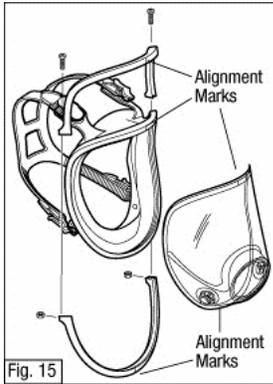

Fig. 22
2. Remove the (2) Phillips screws from the lens/faceseal frame. Pull the frame top and frame bottom away from faceseal.
4. Place new lens and faceseal together aligning marks at top and bottom. Position top and bottom frame, again aligning marks top and bottom. (Fig. 22) Install and securely tighten screws. Make certain alignment marks are properly aligned top and bottom with all components.
2. Position bottom frame, aligning center vertical mark, and press in place. (Fig. 22)